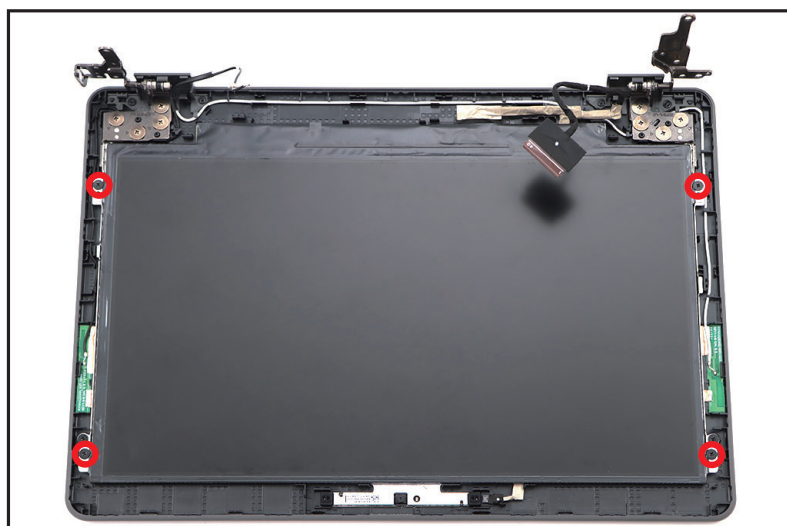

Figure 3-39. LCD Panel Removal
2. Remove four (4) screws securing the LCD brackets to the LCD cover (Figure 3-39).